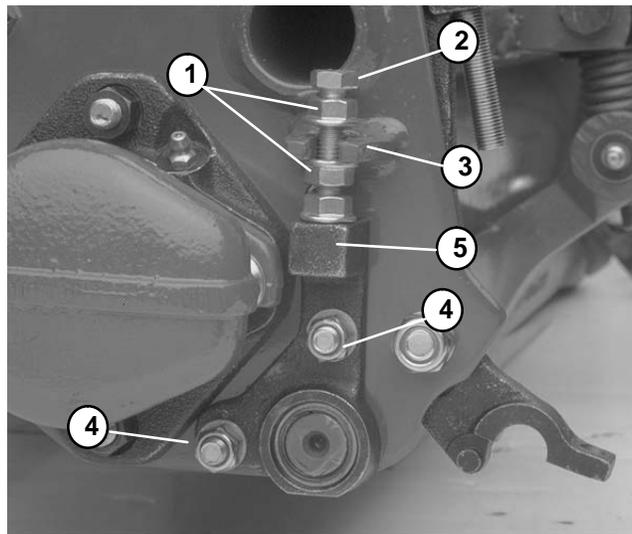

Figure 48
2. Loosen both flange lock nuts securing the hex head flange screw to the frame tab (Fig. 48).
5. Remove both lock nuts and flat washers from each carriage screw securing the pivot hubs to the frame (Fig. 48 and 49).
3. Secure carriage screws with flat washers and lock nuts (Fig. 48 and 49).